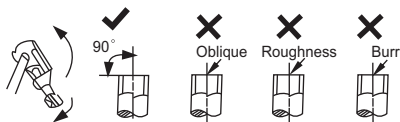

Fig. 44 — Pipe Cutting
- a. Cut the pipe, with a pipe cutter, at 90 degrees (see Fig. 44).